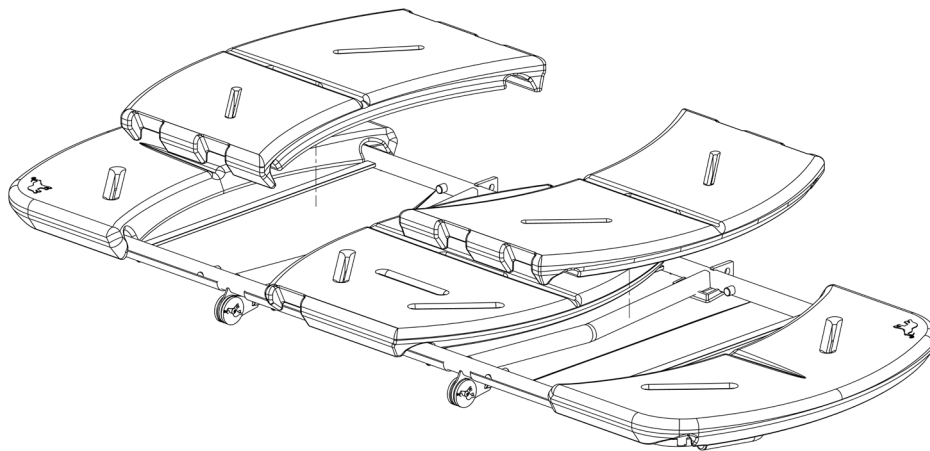

Fig 12.6a
Remove the pads by lifting them vertically as shown in Fig 12.6a to aid with installation.
- Once all the fasteners are secured, fold and stow to check the stretcher is moving freely and without restriction. Refit the pads as shown in Fig 12.6a.